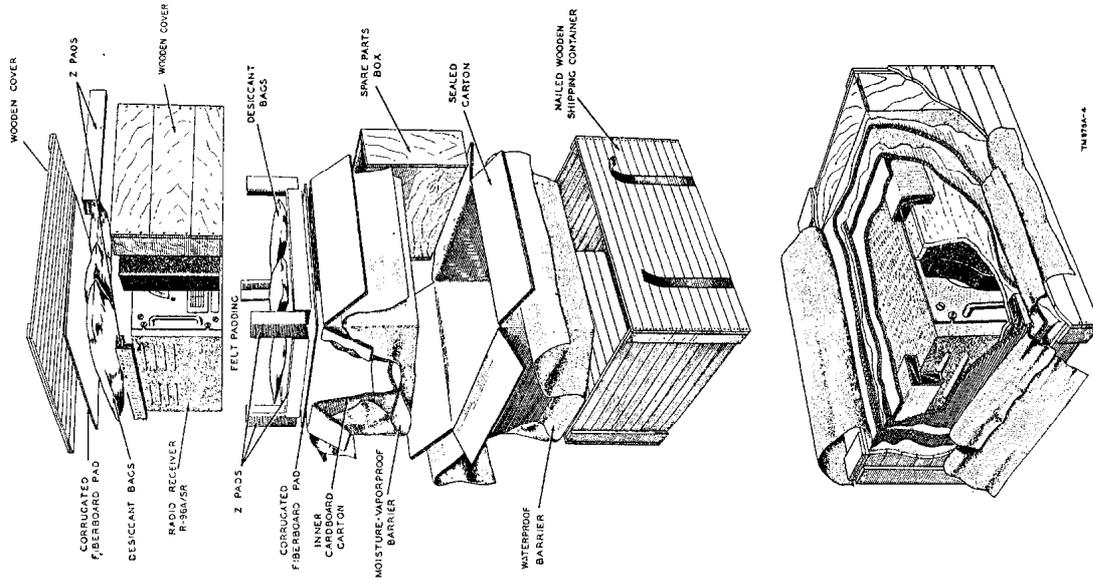

Figure 6. Packaging and packing Radio Receiver R-96A/SR.
a. Description. Radio Receiver R-96A/SR is packed in a nailed wooden shipping container; the size is listed in *b* below. Running spare parts are packed in an additional metal container, which in turn is packed in the large wooden box containing the receiver. The receiver is packed for export shipment as shown in figure 6. Z-pads and a wooden cover plate surround the receiver along with six silica gel pads. These are packed in a corrugated fiberboard inner carton which is sealed. This carton then is placed in a moisture-vapor-proof barrier, which in turn is sealed and placed in an outer fiberboard carton. The outer fiberboard
Caution: This radio receiver and the spare parts may be easily damaged during the unpacking process. Be extremely careful not to drop or damage the units. Avoid thrusting pinch bars or any other unpacking tools, such as a screw driver, into the interior of any fiberboard shipping container. Do not unpack in a location where dust, dirt, or excessive moisture may affect the equipment. Follow closely the unpacking instructions given below. Figure 6 illustrates the packing of Radio Receiver R-96A/SR and its spare parts box.